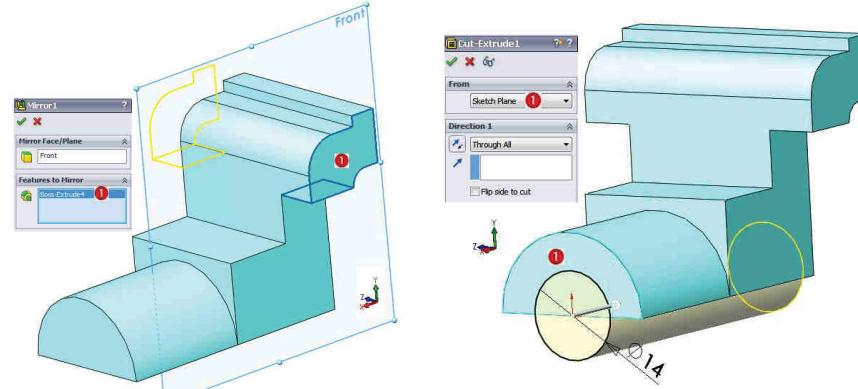

Fig. 2.26
**9 Oglindire entitate 3D:** comanda Mirror  - Fig. 2.26 – Selectie plan Front / selectie entitate 3D ①/ .
**9 How to mirror the 3D entity:** the Mirror  command - Fig. 2.26 – Select the Front plane / select the ① 3D entity/ .